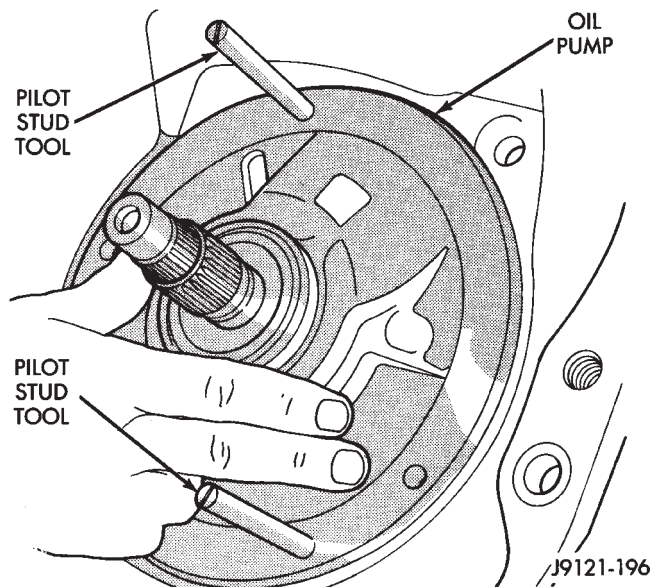

Fig. 122 Installing Oil Pump Assembly In Case
(27) Install oil pump (Fig. 122). Align and position pump on pilot studs. Slide pump down studs and work it into front clutch hub and case by hand. Then install 2 or 3 pump bolts to hold pump in place.
(28) Remove pilot stud tools and install remaining oil pump bolts. Tighten bolts alternately in diagonal pattern to 20 N·m (15 ft. lbs.).